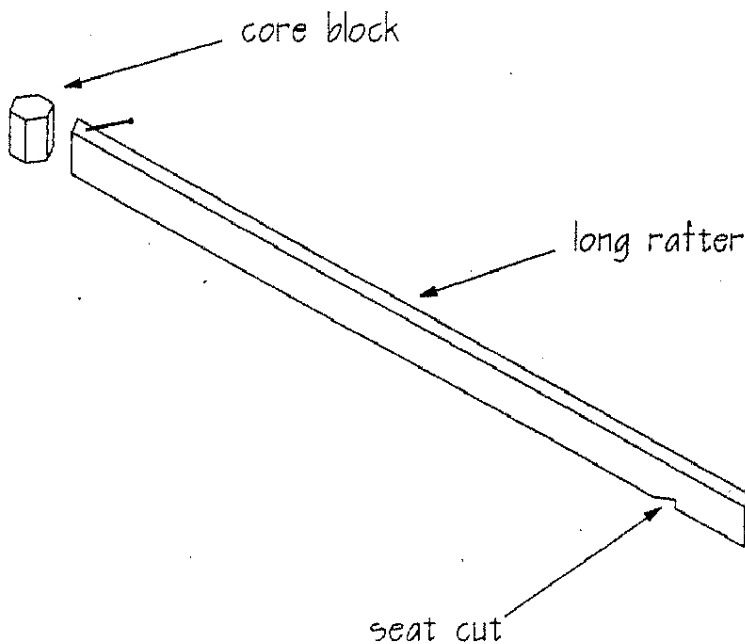

Figure D1
1. While on the ground, fasten the ROOF Core Block to a Long Roof Rafter. The seat cut on the Long Roof Rafter will fit over the Header, so be sure that the seat cut is facing down. The opposite end of the Long Roof Rafter will be fastened to the Roof Core Block. Using a 3" screw, toenail the Long Roof Rafter to the Roof Core Block. It is helpful if you pre-drill holes using a 1/8" bit. Be sure the top of the Roof Core Block and the Long Roof Rafter are flush. See **Figure D1**.